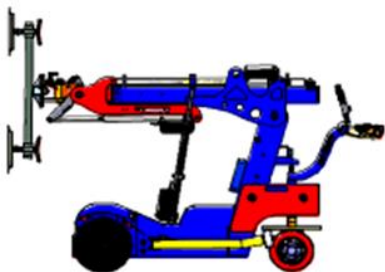
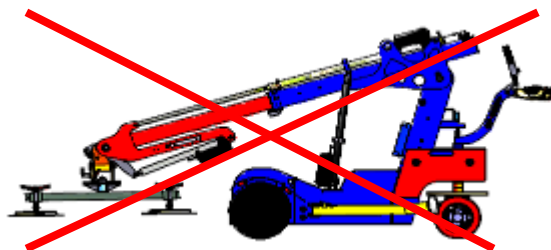

Figure 1
Figure 2
- Never switch off the KS Robot when it has a load, or as in Fig. 2, with the suction unit lowered to the ground! **Always switch off as in Figure 1!**